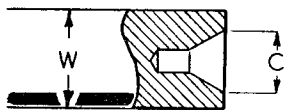

Fig. 4
The pecker is carried on a small arm clamped to the rocker shaft, and, of course, lines up with the ratchet wheel as in Fig. 4.
The pecker, as drawn in Fig. 4, would not work, it must be much shorter so as to "dig in" when thrusting.
[Fig. 4
Although, as has been said, these drills are used for forming starting holes for drills, they are primarily intended for making accurate recesses to receive the lathe centres, as depicted in Figs. 4 and 5.
countersink (C) and the diameter of shaft (W) to be turned between centres is shown in Fig. 4; it will, however, be appreciated that the size of the countersink should, in part, depend on the amount of subsequent machining required on the shaft. If a few light cuts only are to be taken, the drilled centre may well be small to maintain the good appearance of the work, but,